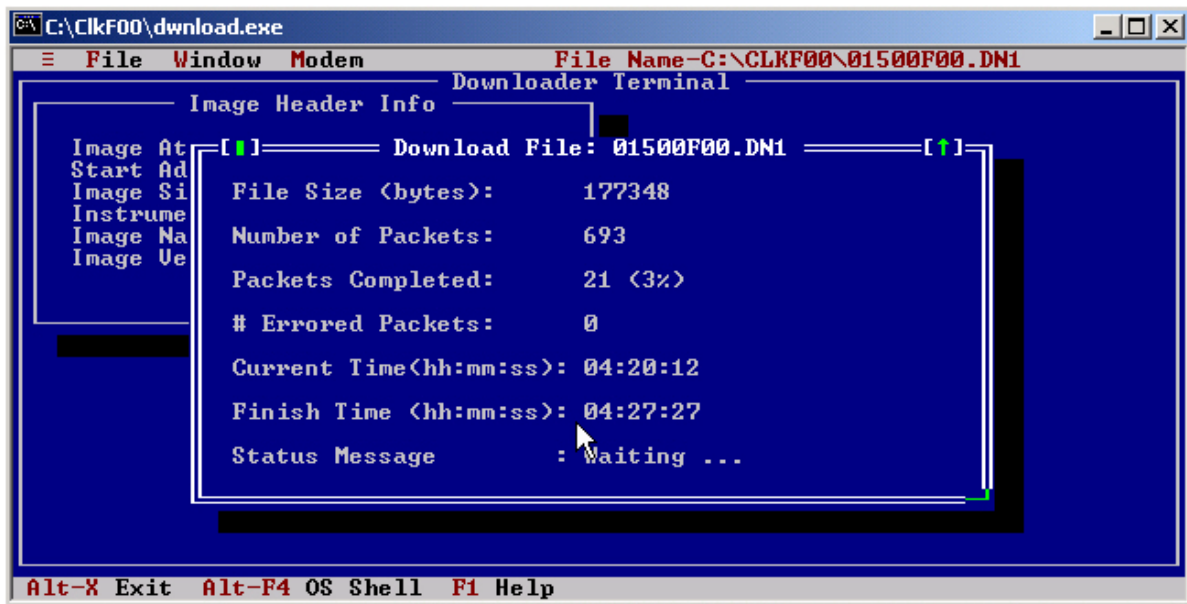

Figure H-5. The Download File Dialog Box
18. Select the File menu (or press Alt+F), and select the Download option (or press the D key). The Download File dialog box appears, as shown in Figure H-5.